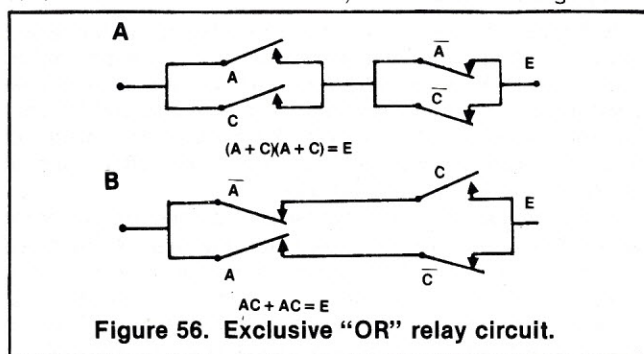
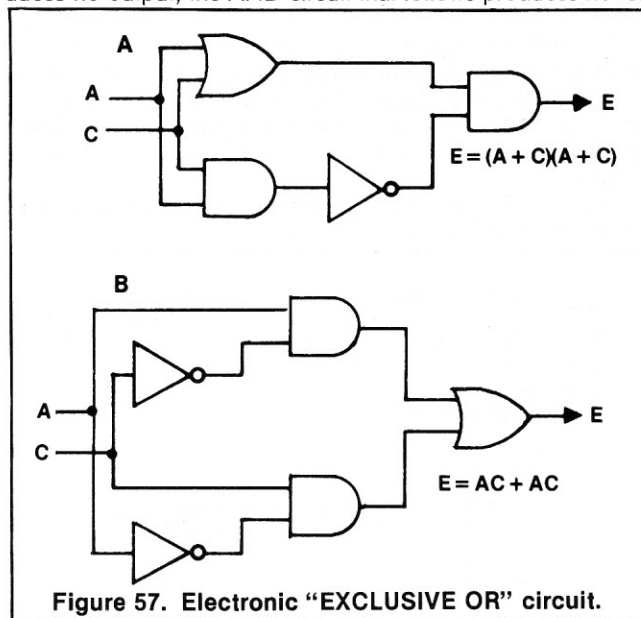

Figure 56. Exclusive "OR" relay circuit.
Figure 57. Electronic "EXCLUSIVE OR" circuit.
The first condition is expressed as $A + C$; the second condition as $\bar{A} + \bar{C}$. The first condition is represented by front contacts A and C in parallel; the second condition as back contacts \bar{A} and \bar{C} also in parallel. Since both conditions must be satisfied simultaneously (AND concept), both parallel circuits must be connected in series, as shown in A of Figure 56.
To obtain this form of a circuit, we can connect a back contact \bar{A} in series with the front contact C, and this circuit in parallel with a series circuit formed by a front contact A in series with a back contact \bar{C} , as shown in B of Figure 56.
This circuit so obtained is equivalent to that shown at A of Figure 56.
In Figure 57 we present the electronic logic diagram equivalent to the exclusive OR circuit of Figure 56. In this electronic Logic diagram the AND, OR, and inverter circuits are connected in various combinations in order to obtain the same results of the circuits illustrated in Figure 56.
Note at A of Figure 57 that if an input is applied to either A or C (but not to both) an output will appear at terminal E. If inputs are applied to both A and C, no output will appear at E, because (1) the AND circuit which feeds into the inverter will produce an output; (2) the inverter will produce no output because it receives an input; (3) since the inverter produces no output, the AND circuit that follows produces none.
As with the circuits of Figure 56, the circuit A of Figure 57 is described mathematically by the equation $(A + C)(\bar{A} + \bar{C}) = E$. The same reasoning can be applied to the circuit shown at B of Figure 57. However, in this latter case, the equation is $(\bar{A}C + A\bar{C}) = E$.
Returning to Figure 56, if one of the two circuits were included in a sealed box, or black box, as it is usually called, we could not tell from the outside which of the two circuits is employed. Neither of these two circuits has any advantage over the other, since both require four contacts and two relays to accomplish their purpose.
But there are instances when great savings in components are achieved by substituting one circuit for its equivalent. For example, circuit A of Figure 57 has one inverter less than circuit B.